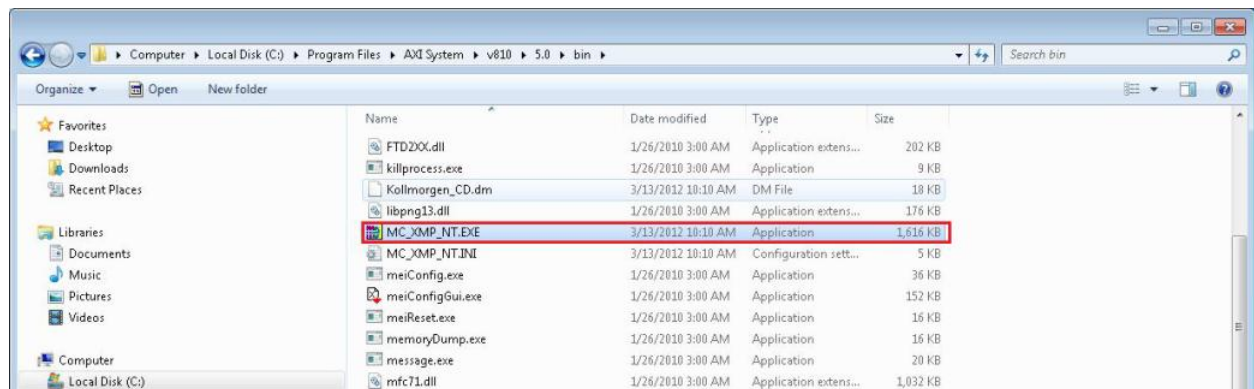

Figure 4 MC_XMP_NT.EXE
4. Go to the following directory: C:\Program Files\AXI System\v810\REV\bin and open the MC_XMP_NT.EXE as shown in Figure 4.